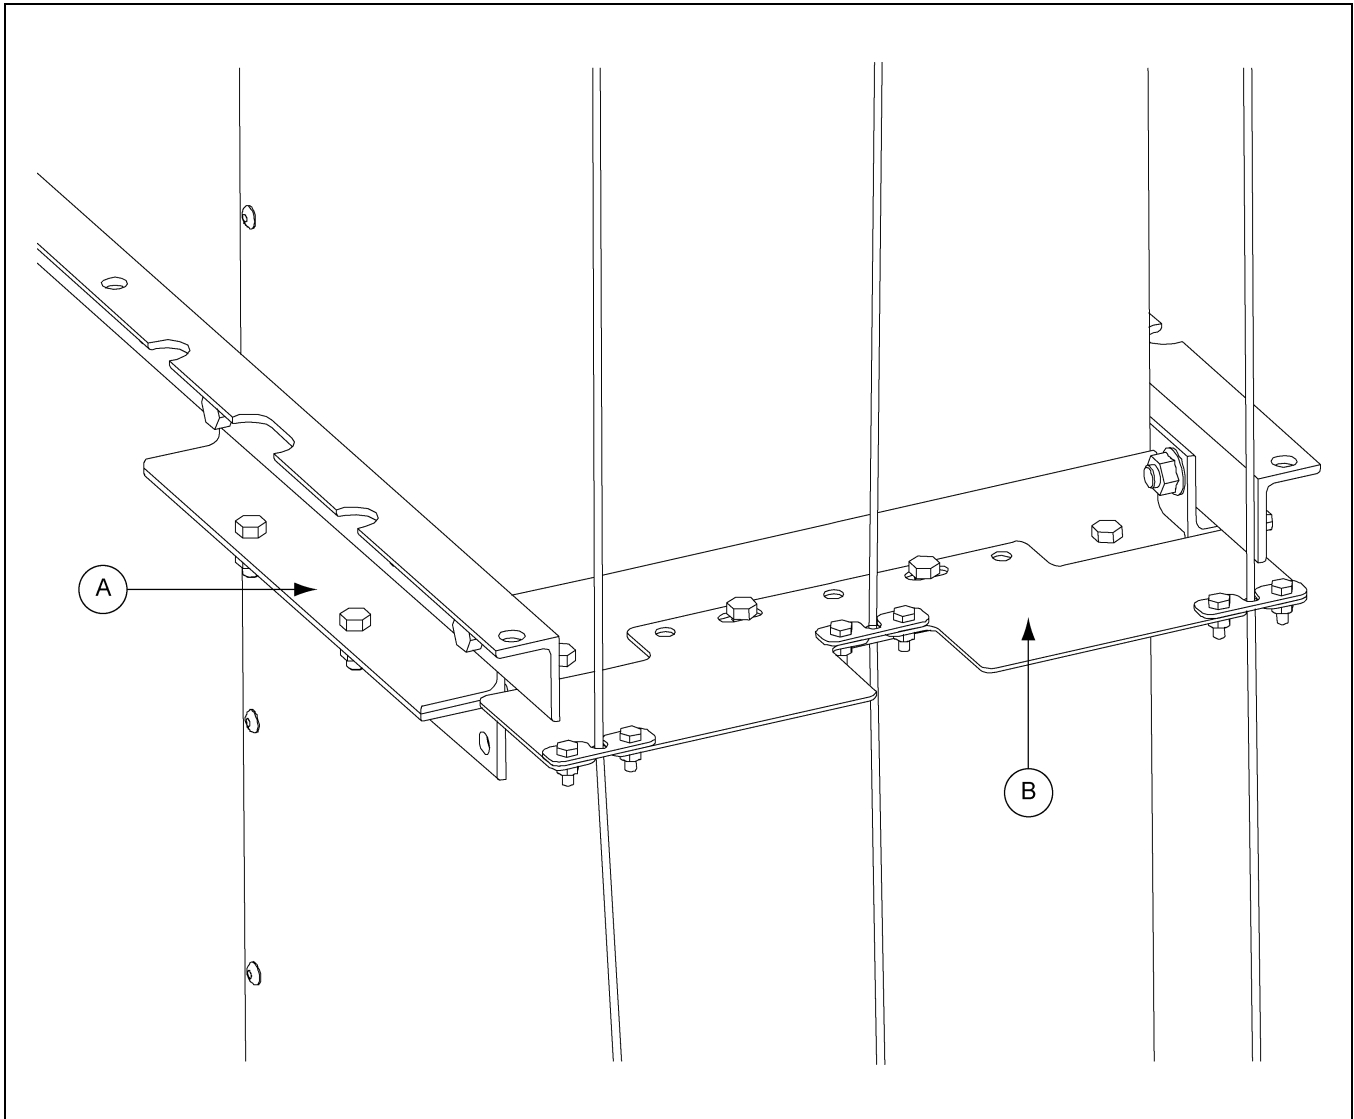

Figure 5G
To help keep the cable in-line from the upper assembly to lower assembly, install intermediate cable guides. The quantity of intermediate cable guides to be installed is determined by the height of the leg. The company recommends that they be installed every 20'. These intermediate cable guides (B) are fastened at the trunking joints using the same hardware as the joint. The assembly shows how the intermediate cable guides are located on the trunk joints (A). (See Figure 5G.) For cable installation, See Page 18.